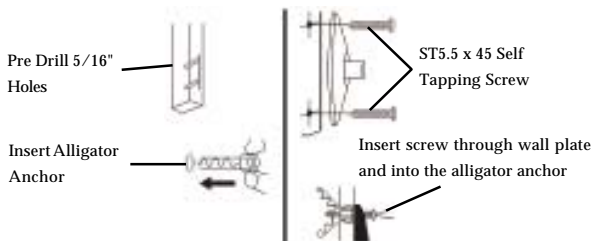

Figure 8
1. Locate the best mounting location in the ceiling or wall. Using the wall plate as a template, mark the hole positions on the mounting surface. For in-wall applications, position the mounting holes in a vertical pattern, see **Figure 8** on the next page.
3. Once the holes are drilled, insert the alligator anchor into the holes. Make sure the anchor is flush with the wall and/or ceiling surface, see **Figure 8** on the next page.
4. With the anchors in place, mount the wall plates using the ST5.5 x 45 self tapping screws, see **Figure 8** below.